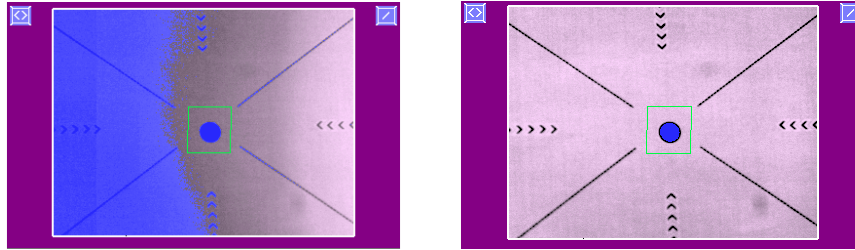

Figure 7-8: Pointing the Camera-visible illumination boundary (left) and fully illuminated target (right)
- 7) *Point the Camera and Roughly Focus the Lens.* A Target Screen was supplied with your system to provide you with a target to locate. This will provide a target to find with the camera and will assist in determining that the eyes are properly illuminated by providing a screen to project the illumination onto. Place the circular target at the location where the subject's real eye(s) will be. With the EyeLink 1000 Host application running, point the Camera Head at the Target and locate it by monitoring the global view on the Host PC's "Camera Setup" screen (e.g., the left image of Figure 7-8), or a transferred global image on the Display PC. The Camera Head itself is immobile, but the entire Mounting Bar can be moved by adjusting the Base or Tripod. While watching the global image, turn the lens wheel so that the image becomes clearer – it does not have to be perfect at this stage.
- While monitoring the global camera view, adjust the illuminator up and down by rotating the clip around the Mounting Bar so that the Target Screen is brightly illuminated and the bulk of the illumination appears in the center of the Screen on the vertical – tighten the knob holding the illuminator to the Mounting Bar to secure the position. The brightly illuminated region will be grayscale, while the region in the infrared dark will be threshold colored. The left side of Figure 7-8 illustrates the boundary of illumination in the global camera view – the illuminator would need to be shifted in this case so that the entire target is illuminated as in the right side of Figure 7-8.